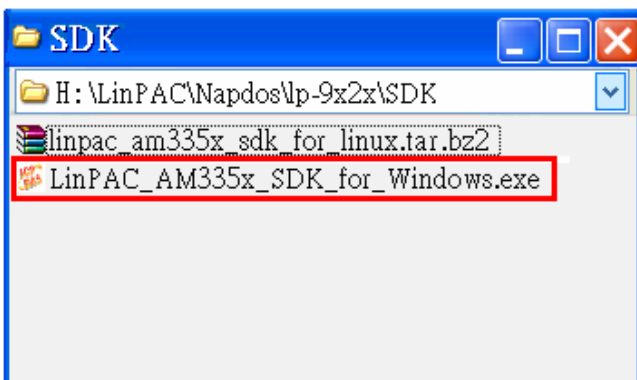
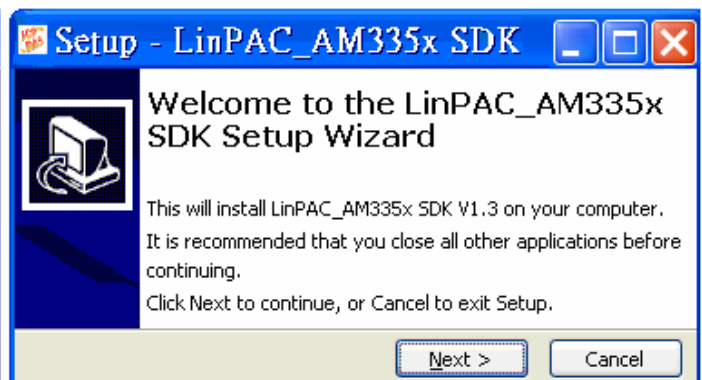

Fig. 2-7
Fig. 2-8
2. Open the \napdos\LP-9x21\SDK\ folder and double-click the icon for the “**LinPAC AM335x SDK for Windows.exe**” file, when the Setup Wizard is displayed, click the “**Next>**” button to continue, refer to Fig. 2-7 and Fig.2-8.